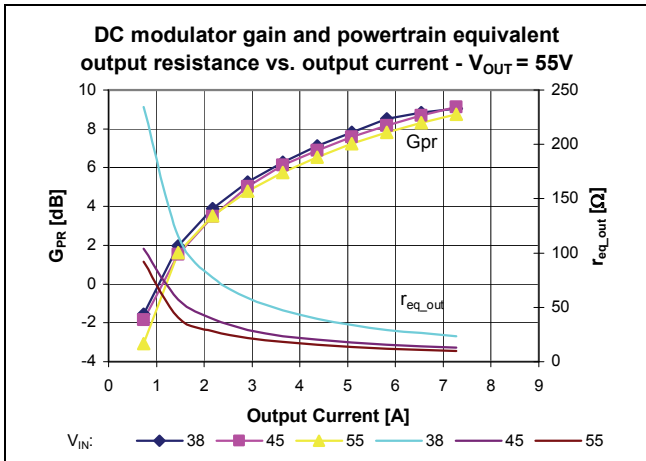

Figure 17 – Powertrain characteristics vs. I_{OUT} ; Resistive load, $V_{OUT} = 55\text{ V}$, various V_{IN}
The powertrain small signal (plant) response consists of a single pole determined by the load resistance, the powertrain equivalent output resistance, and the total output capacitance (internal and external to the module). Both the modulator gain and the equivalent output resistance vary as a function of line, load and output voltage, as shown in Figures 17, 18 and 19. As the load increases, the powertrain pole moves to higher frequency. As a result, the closed loop crossover frequency will be the
- Modulator Gain G_{PR} : See Figures 17, 18, 19
- Powertrain equivalent resistance r_{EQ} : See Figures 17, 18, 19